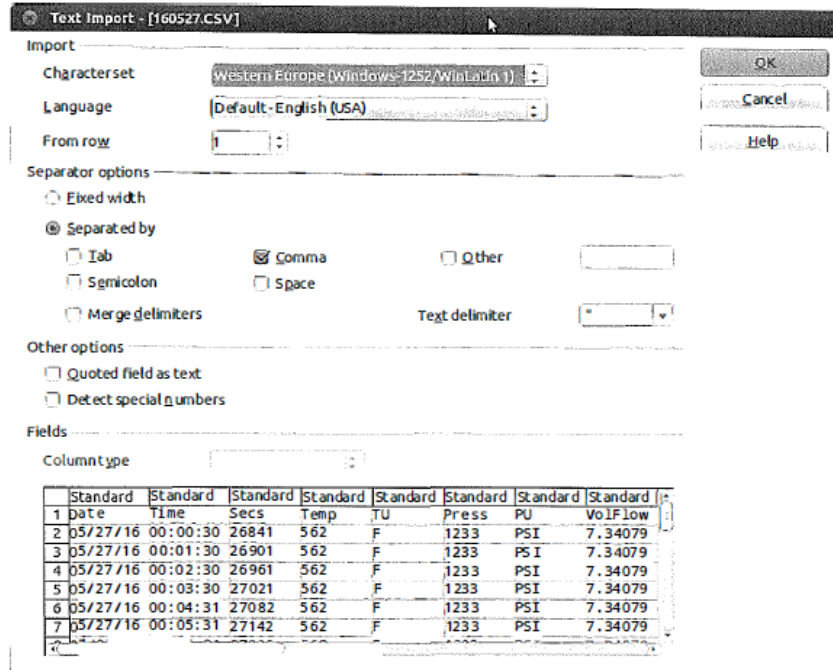

Fig 31: Data Logging Example in Excel Format
- An Example shown in figure 31, offers to open it in LibreOffice Calc - analog of Windows EXCEL.